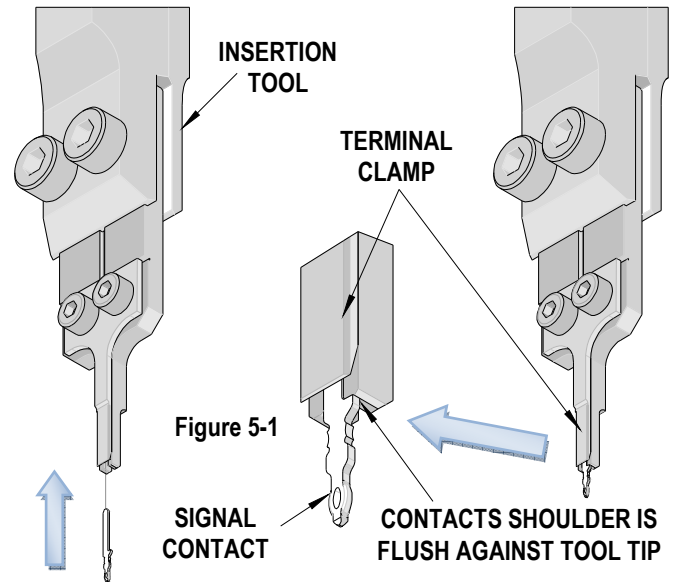

Figure 5-1
3. The signal contact is completely seated in the insertion tool when, the contacts shoulder is resting against the insertion tool tip and can no longer be moved up. See Figure 5-1.